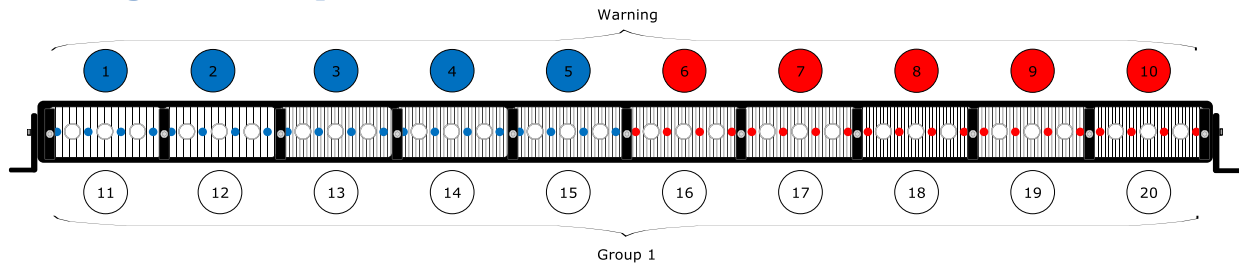

Figure 1 TRT-50x-TDxW (Blue/White and Red/White lamps used for illustration only, they could be any Color/White lamps.)
The TRT-50x-TDxW-x models consist of 10 lamps. All ten lamps are Color/White lamps. See Figure 1.
**Orange Wire** – Activates Steady Burn on the white lamps. See Figure 1.
**Blue Wire** – Activates the Warning patterns on the color lamps. See Figure 1.
**Brown/White Wire** – Activates the Traffic Direction patterns using the color lamps. See Figure 1.
**Brown Wire** – Activates the Traffic Direction patterns using the color lamps. See Figure 1.